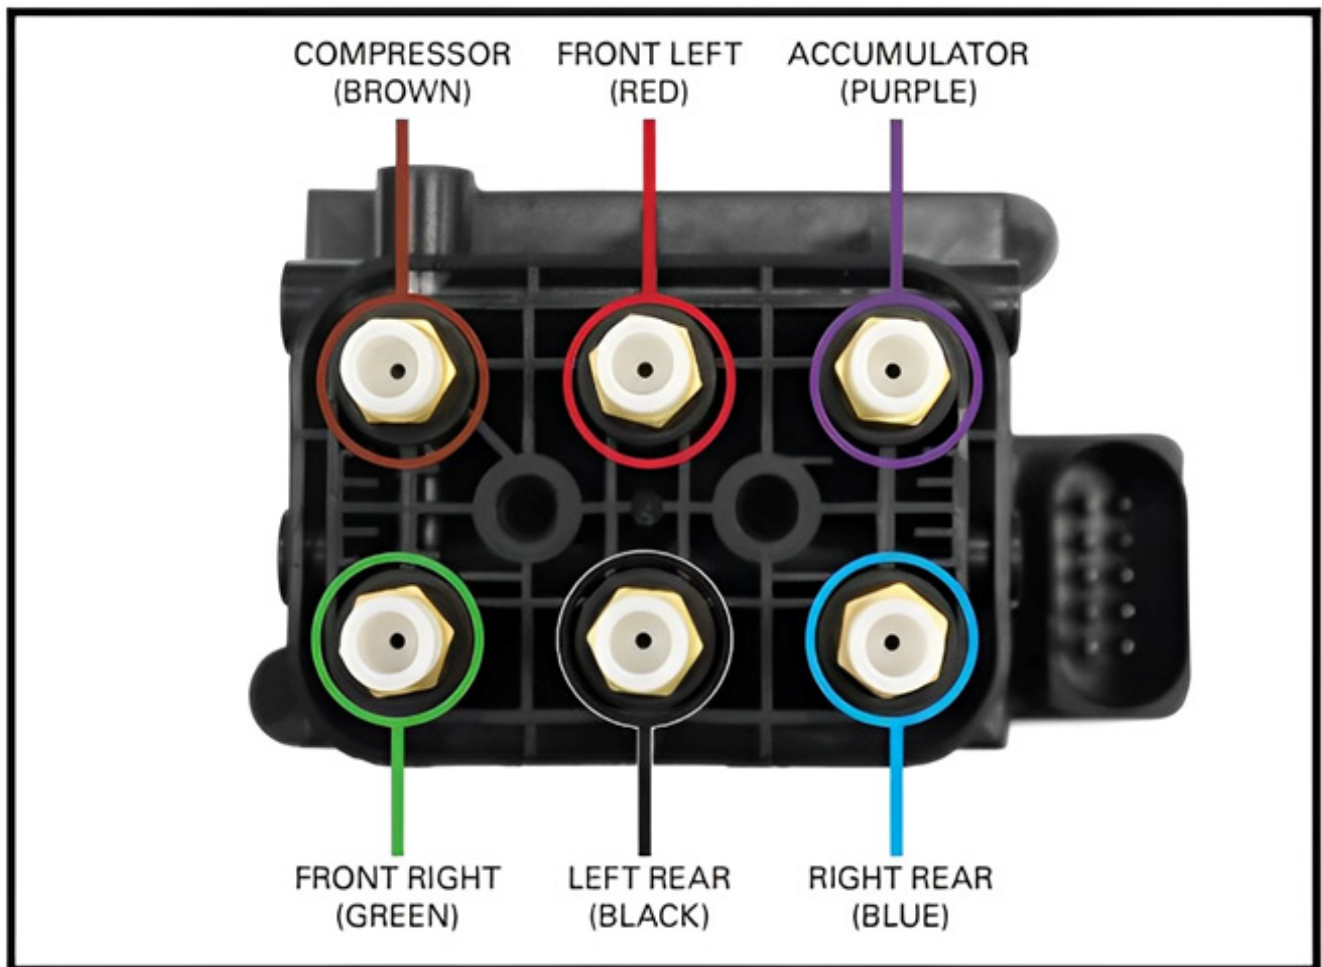

FIGURE 1
1. AIR LINE DIAGRAM. (FIGURE 1)